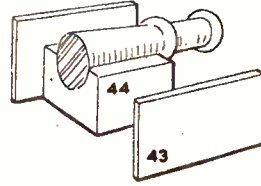

Fig. 7—Cannon detail
These mast holes, remember, should be bored at a slight angle to provide the rake for the masts themselves. The hole in the deck is cut to make the mast slope slightly backwards—but only very slightly. On the well deck there is the main mast hole, with its rails round (24) and the gun placed just behind. This gun is shown in detail at Fig. 7. A hollow hatch framework (29) is glued flat to the deck, and on this the two little shaped boats are glued keel downwards. The shape of the boats themselves is shown in the section, and must be carefully made and shaped before fixing.